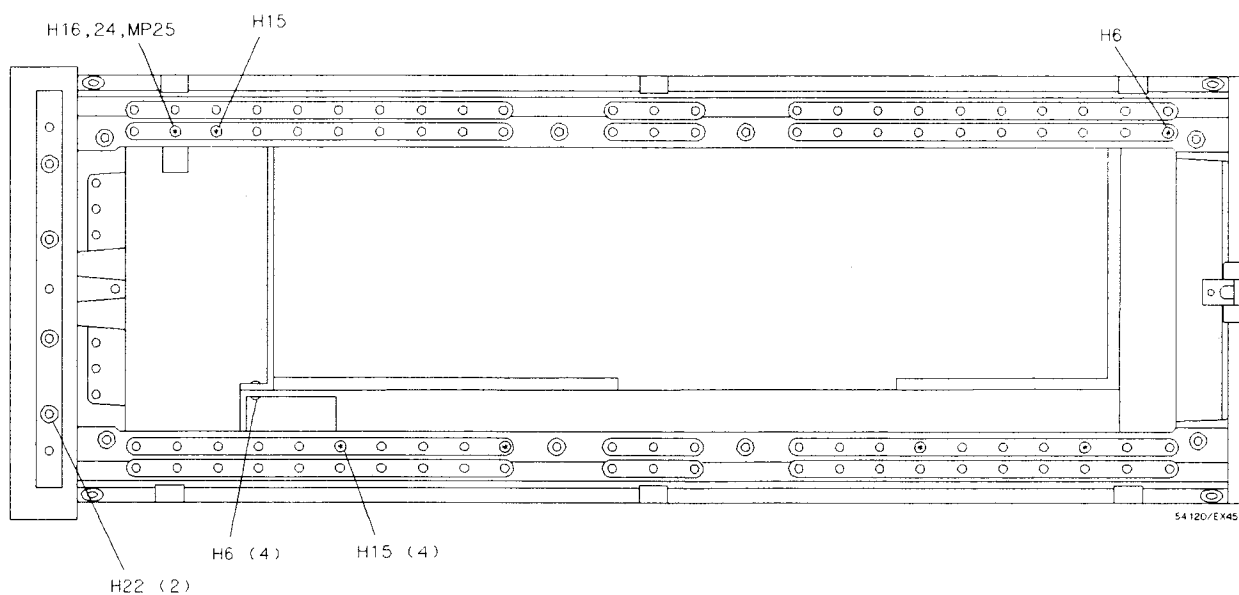

Figure 5-6. Right Side View
- 5-7 Figure 5-6. Right Side View